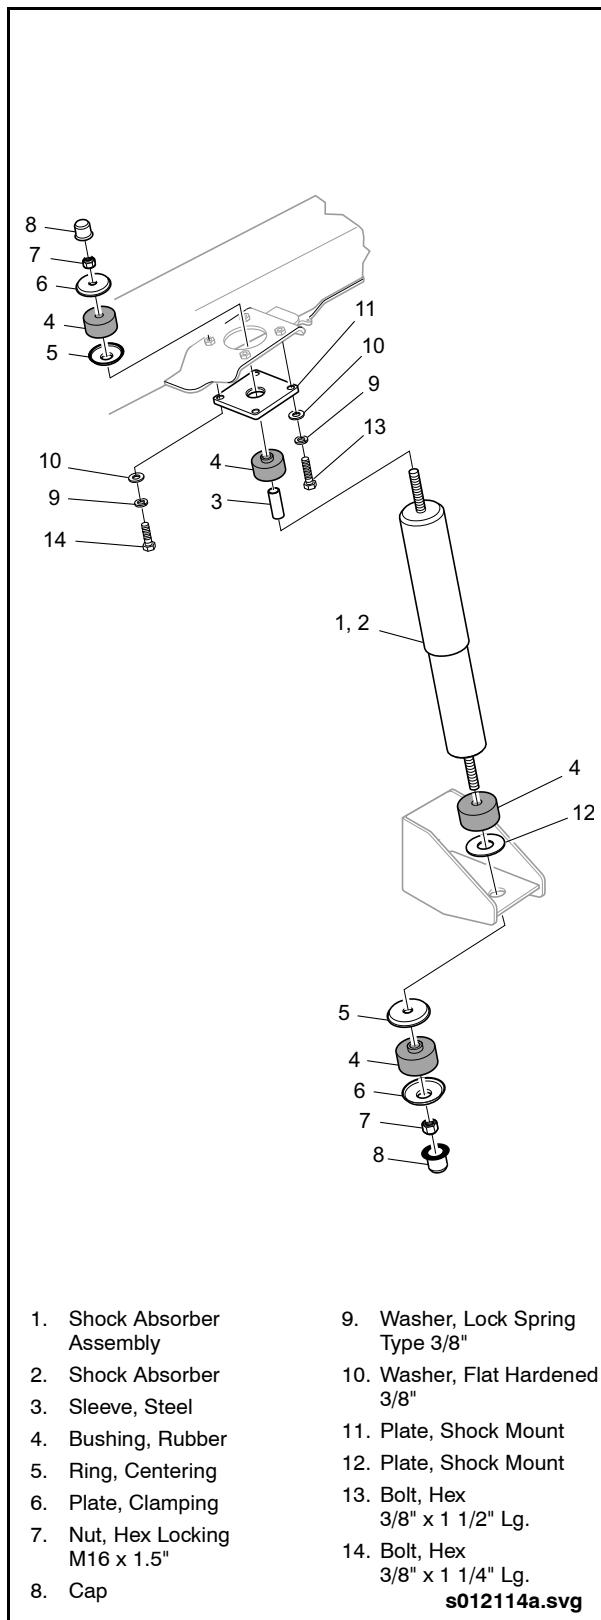

Fig. 2-107: Shock Absorber Removal & Installation
2. Remove the four bolts retaining the upper shock mounting plate to the chassis bracket. See "Fig. 2-107: Shock Absorber Removal & Installation" on page 88.